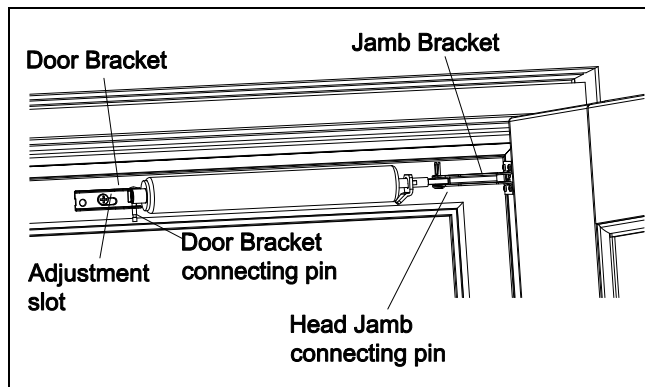

Figure 14
5. Attach jamb bracket to closer tube assembly using short door bracket connecting pin. Attach screen door bracket to closer tube front hole with long connecting pin. See figure 14.
6. Close and latch the screen door. From the interior, hold closer and door bracket against screen door top rail in a level position. Mark and drill one 7/64" pilot hole in the adjustment slot opposite the cylinder. See figure 14. Do not drill completely through screen door panel. Attach door bracket to screen door with one #8 x 1/2" screw in adjustment slot.